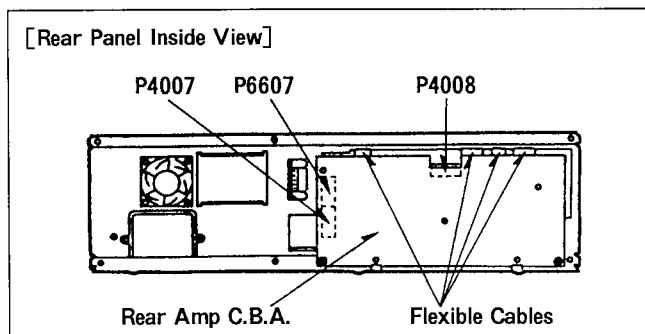

Figure D9
2. Lift the Rear Amp C.B.A. and then disconnect the 4 flexible cables (P6601, P6604, P6605 and P6608) and the 3 connectors (P4007, P4008 and P6607). (Figure D9)